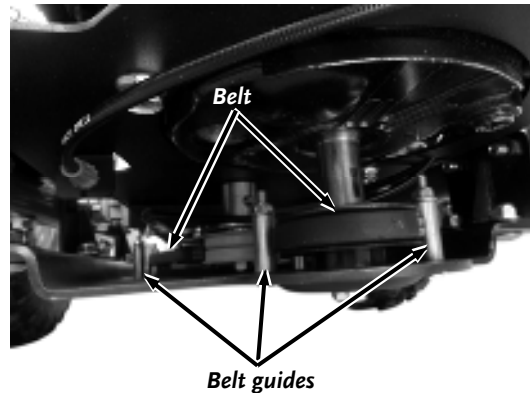

Figure 48
9. Reinstall the Skid Plate making sure that the Belt is on the inside of all Belt Guides (**Figure 48**).